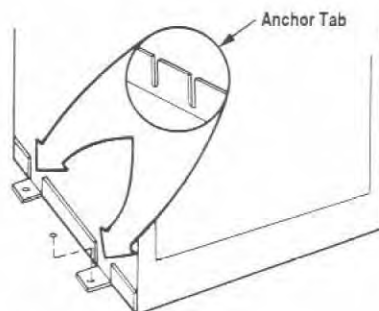

Figure 8
Step 4. Fireplace may be secured to the floor. Bend down four (4) anchor tabs located at the base of the fireplace and secure with nails (Figure 8).